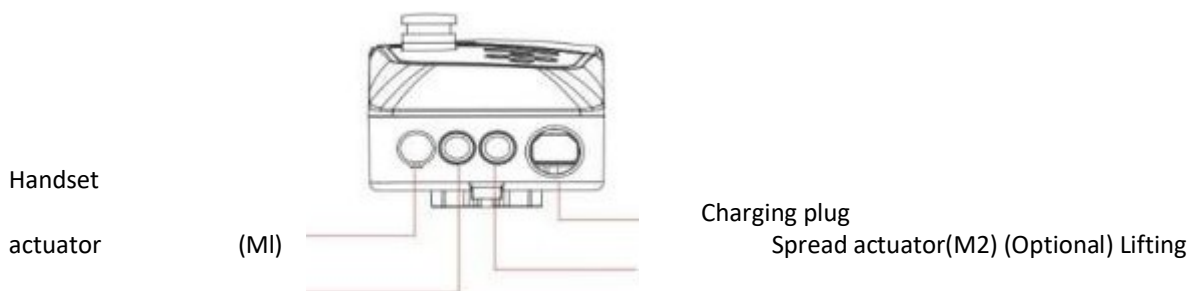

Fig. 9. Port diagram of the electrical box controller.
The device has 4 ports (Fig. 9), from left to right: Handset, lifting actuator (MI), Spread actuator (Optional), Charging plug. Installation: Insert 4 cables into four different ports one after the other, respectively.